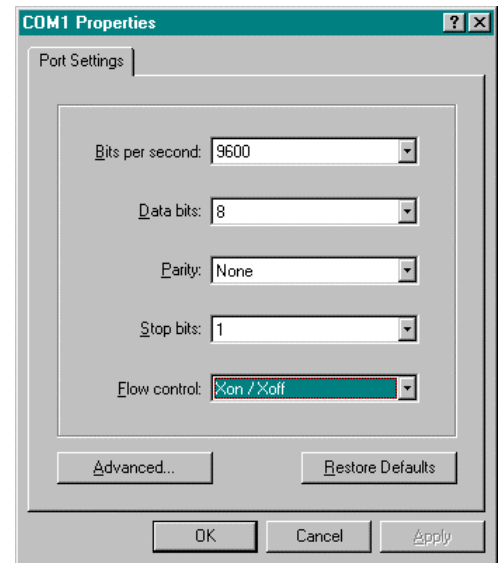

Figure A-2. COM Properties Dialog Box
- Make the following selections using Figure A-2 as a guide.